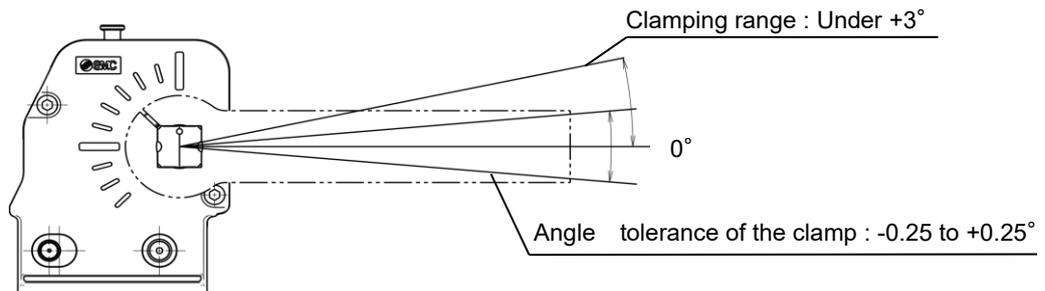

Figure 1
- (1) There is a mechanical difference of -0.25 to $+0.25^\circ$ at the clamping end as shown in Figure 1. Be sure to make adjustments externally using a shim.
- (2) Adjust the angle of the clamp end so that the clamp arm contacts the workpiece at $+3^\circ$ or less. (Figure 1)